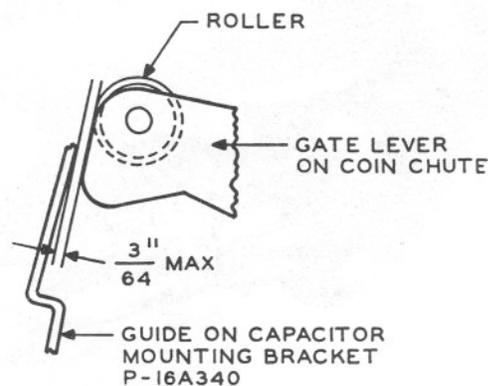

FIG. 1—CLEARANCE BETWEEN GUIDE AND GATE OPERATING ARM
- Capacitor mounting bracket shall be equipped with gate operating arm guide. End of guide shall clear gate lever by maximum $3/64$ inch as shown in Fig. 1. Guide reduces possibility of distorting gate operating arm when removing or reassembling upper housing.